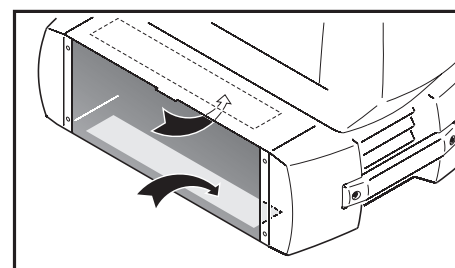

Figure 3. Adhesive insulation tape
- If you are installing an 80 V dimmer, and Voltaflex adhesive insulation tape is not already stuck to the panels in the fixture's base as shown in Figure 3, stick the two strips of tape supplied with the 80 V dimmer unit to the panels using the two arrows in Figure 3 as a guide. Position the tape so that it will prevent any accidental electrical contact between the dimmer unit components and the panels.